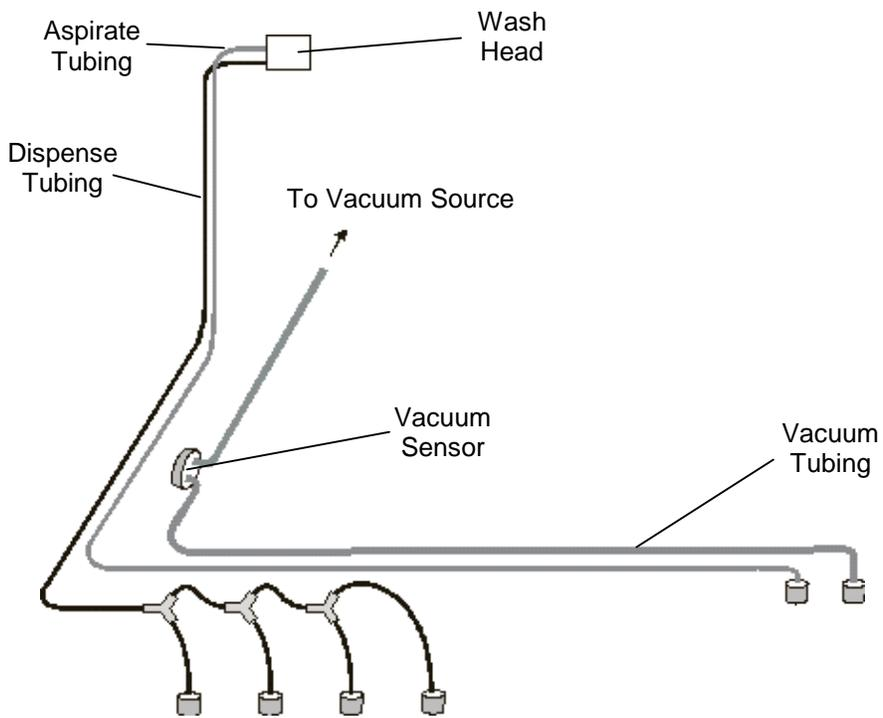

Figure 38. Hydraulic Tubing Diagram
3. A diagram of the hydraulic tubing for the *DSX™ Automated ELISA System* is shown in Figure 38. Consult the diagram for routing of the tubing.